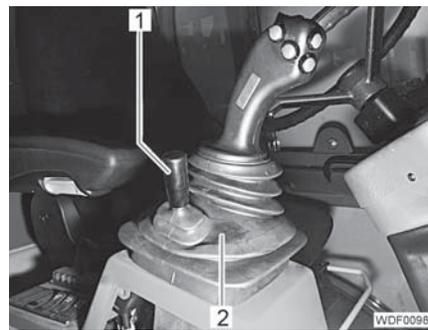

Fig. 211 Control lever
- Unscrew the handle (Fig. 211,1) from the control lever of the auxiliary hydraulics.
- Carefully remove the bellows (Fig. 211,2) upwards.
- Pull the bellows (Fig. 211,2) carefully upwards over the control levers.
- Screw the nut (Fig. 211,1) onto the control lever of the auxiliary hydraulic and tighten it hand-tight.